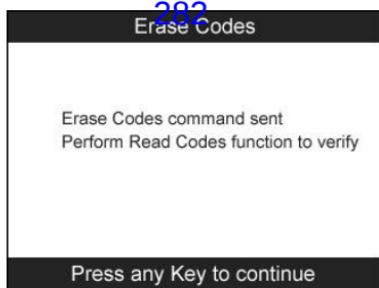

Figure 4.28
- If the erase command is sent successfully, the screen will show as below (Figure 4.28). Press any button to continue. To make sure codes are erased clearly, run **Read Codes** again.